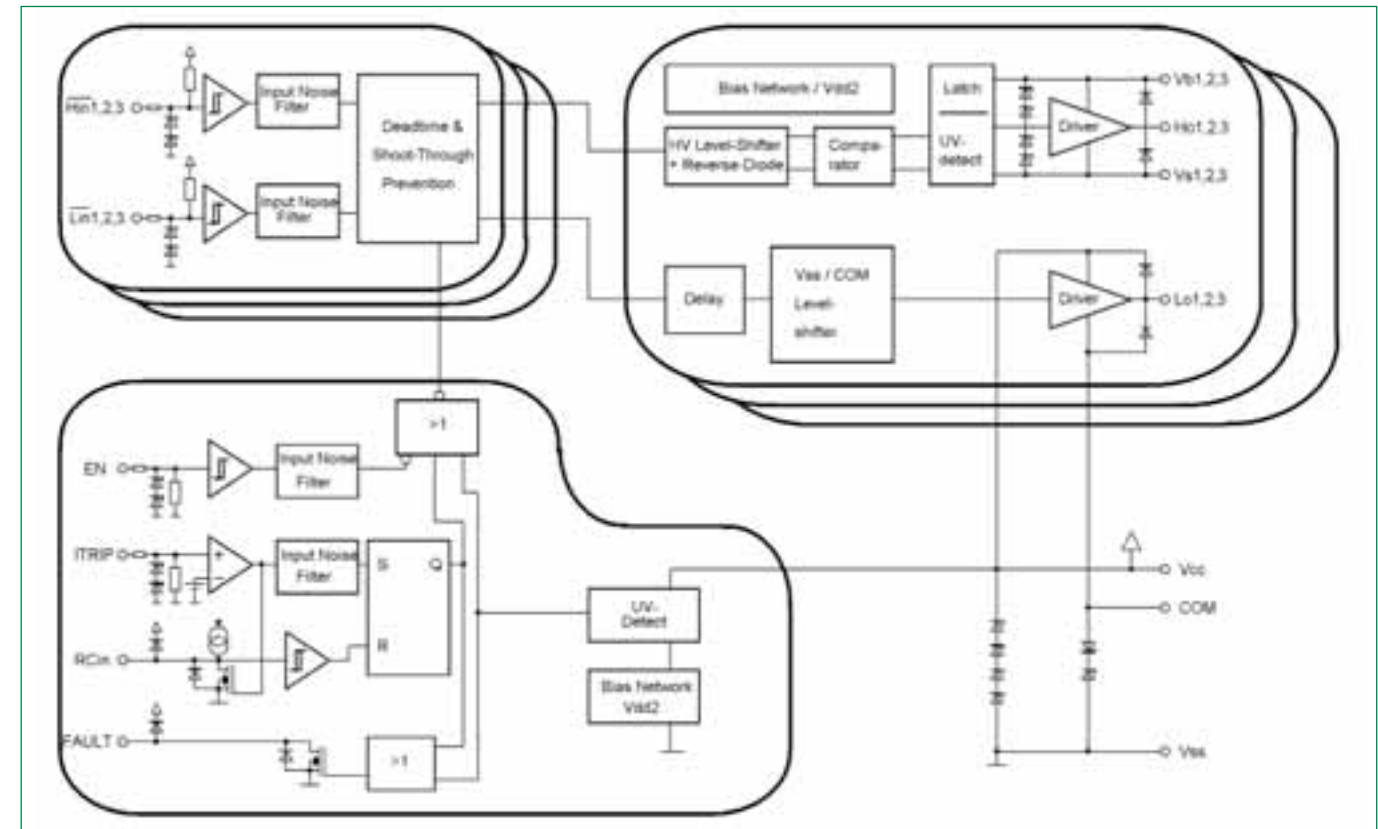

Figure 3. Functional block diagram
e.g. a temperature signal sourced from a thermal sensor. Under-voltage (UV) detection is embedded to shut down the output channel for which the power supply is under-voltage. An open-drain output is given to indicate fault conditions such as SC/OC or UV. An RCIN input is used with an external capacitor to extend the output shut-down status and fault signal. The internal clamping diodes allow the input signal and power supply voltages to go up to 10 V and 20 V, respectively. The functional block diagram of the driver is shown in Figure 3.